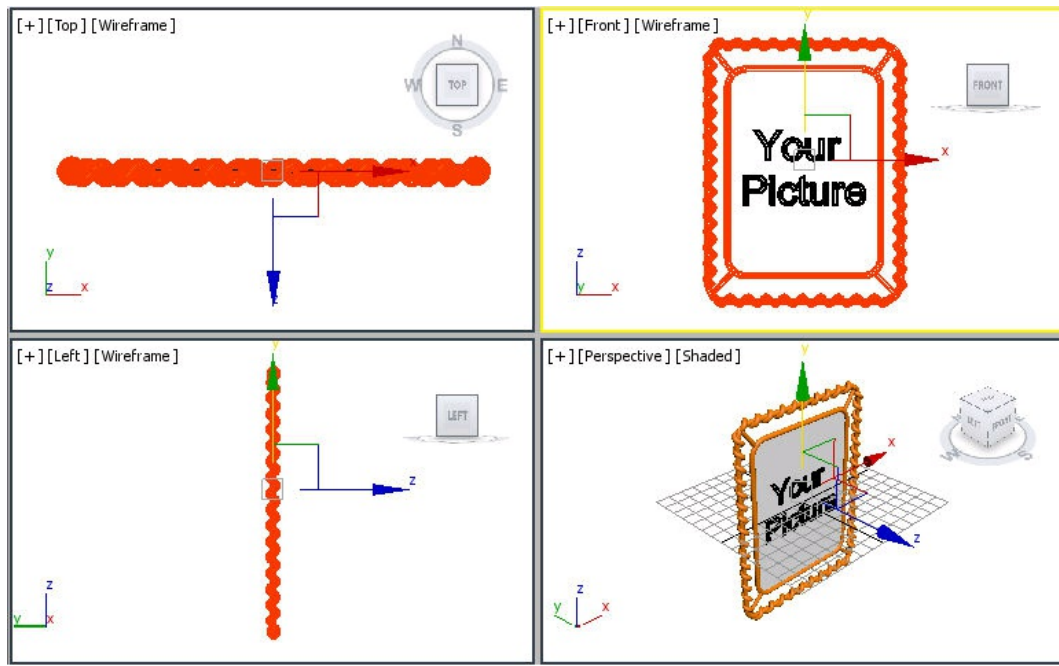

Figure 5-67 Text001 aligned in the viewports
4. Assign black color to *Text001* and align it in the viewports, as shown in Figure 5-67.